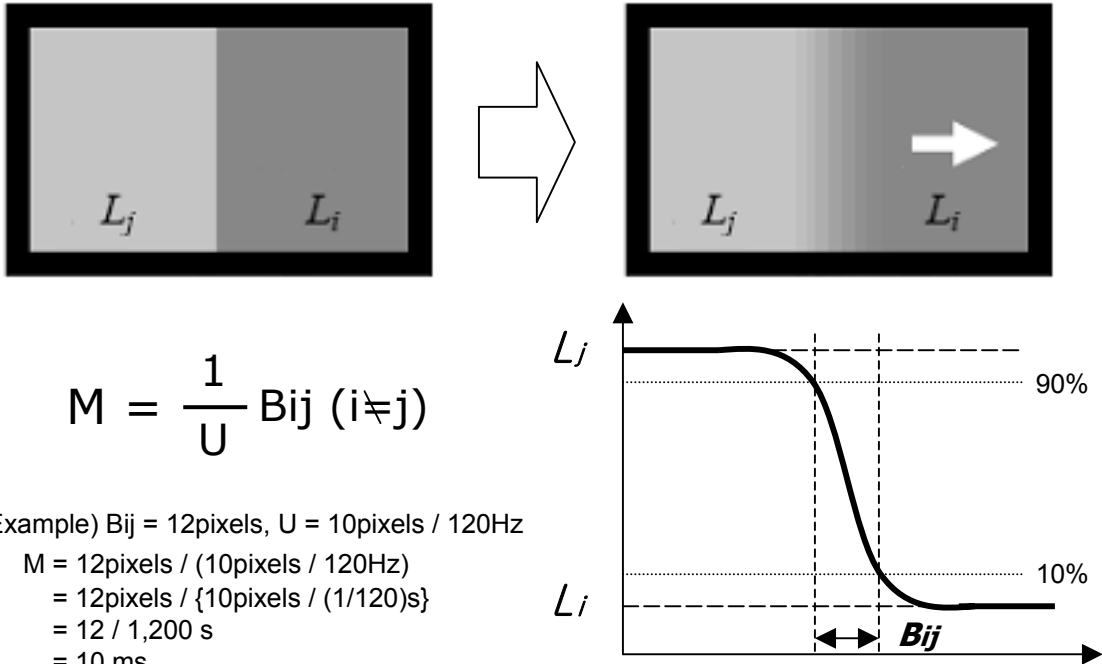

FIG. 4 MPRT
5. MPRT is defined as the 10% to 90% blur-edge width B_{ij} (pixels) and scroll speed U (pixels/frame)at the moving picture. For more information, see FIG 4.